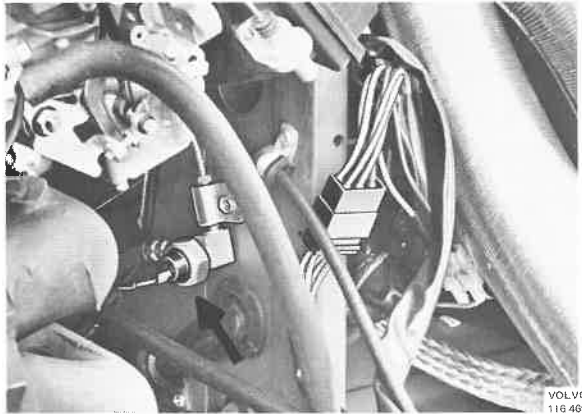

Fig. 38-18. Oil pressure contact
1. Disconnect the cable from the oil pressure contact, see Fig. 38-18.